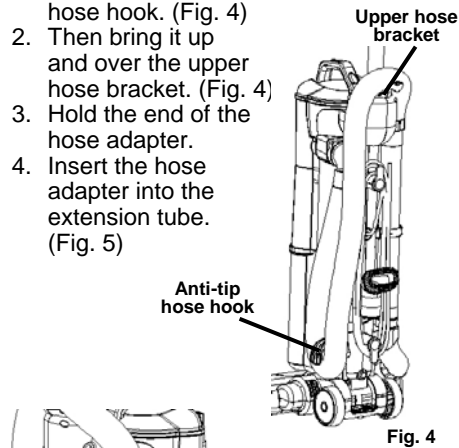

Fig. 4
1. Wrap the hose under the anti-tip hose hook. (Fig. 4)
2. Then bring it up and over the upper hose bracket. (Fig. 4)